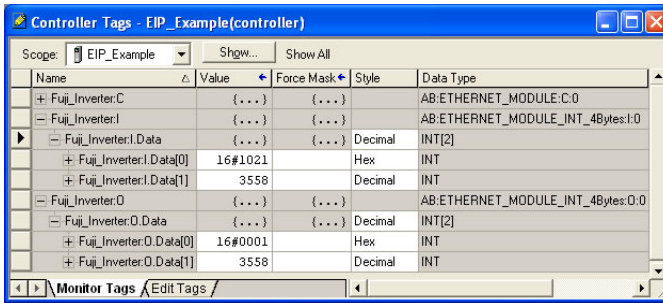

Figure 83: Controller Tags for I/O Access
- 8) By double-clicking “Controller Tags” in the project tree, it is possible to view the newly-added tags. Refer to Figure 83. The Fuji_Inverter:C configuration tag is unused, the Fuji_Inverter:I tag allows viewing of the input data, and the Fuji_Inverter:O tag allows modification of the output data. These tags will be synchronized with the inverter at whatever rate was established for the module's RPI.
We can directly interact with these tags in order to control and monitor the inverter. In Figure 83, for example, we can see that the first 16-bit word of output data (Fuji_Inverter.O.Data[0]) has been set to a hexadecimal value of 0x0001. Referring back to Figure 43, we can see that the first element of the consumed data configuration references function code S06, which is the inverter's operation command register. A value of 0x0001, therefore, means that the FWD (run forward) bit has been turned ON.